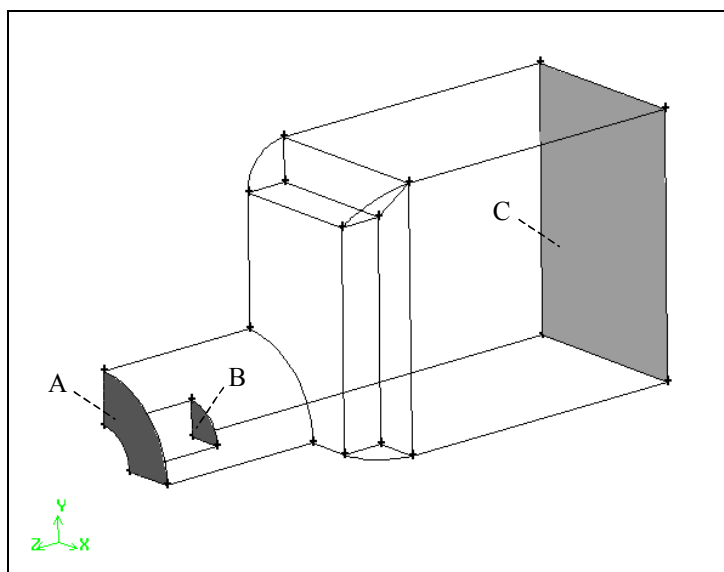

Figure 4-35: Boundary-type faces for the burner—inlet and outlet
- iv. *Shift*-left-click the face marked A in Figure 4-35 and click **Apply** to accept the selection.
- vi. Check that VELOCITY\_INLET is still selected in the **Type** option menu, select the face marked B in Figure 4-35, and click **Apply**.
- iii. Select the face marked C in Figure 4-35 and click **Apply** to accept the selection.